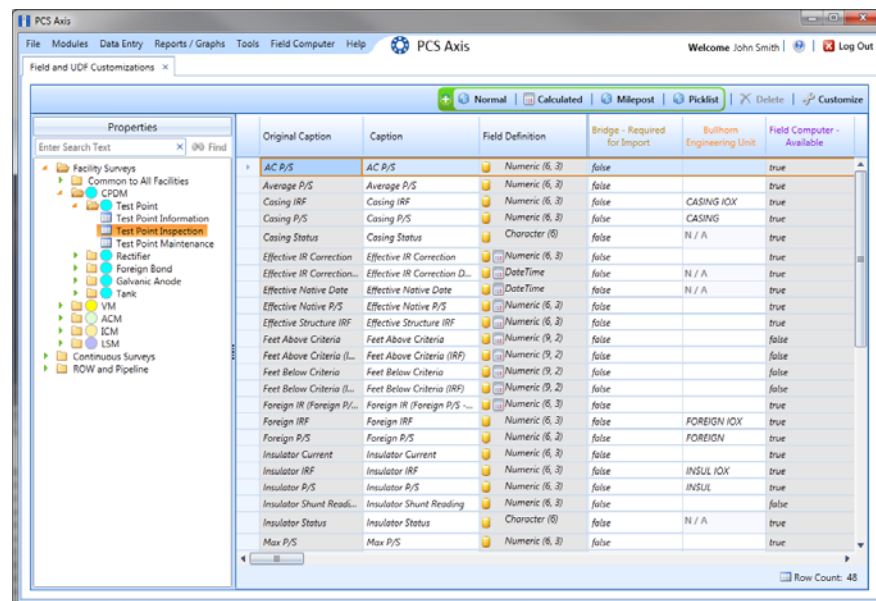

Figure 2-25. Field and UDF Customizations
- 3 Select an item in the *Properties* panel that includes the data entry grid you want to add a UDF. For example, double-click **Facility Surveys > CPDM > Test Point > Test Point Inspection** to display a grid with fields and property settings related to the *Test Point Inspection* data entry grid (Figure 2-25).